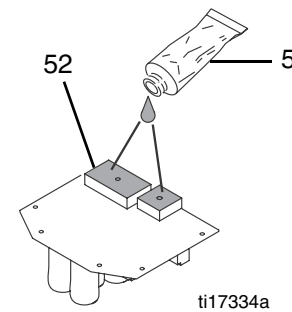

Figure 1
- a. For 2 capacitor boards and 6 capacitor boards with the Powerbar shown in Figure 1 below, apply a small amount of thermal compound 15U114 or 110009 (5) to shaded component areas on rear of motor control board (52).